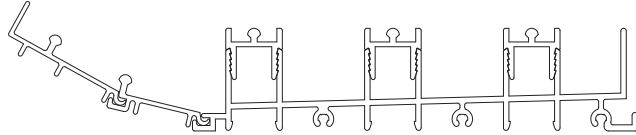

Figure 27
3. Insert tail piece and rotate downward locking it into place. (See Figure 27)